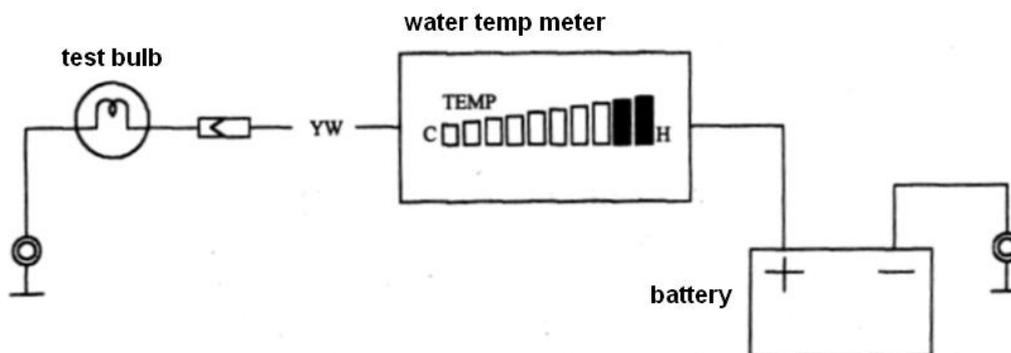

Fig. 17-4
- Use a bulb (12V, 3.4W) in position to ground lead above, as shown in Fig. 17-4.